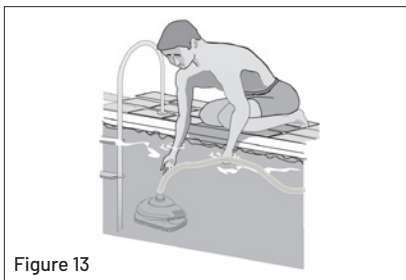

Figure 13
2. Fill the cleaner with water and let it sink to the bottom, (see Figure 13).